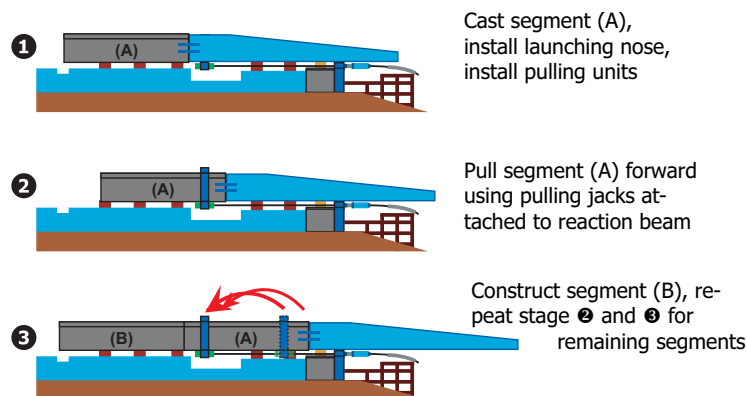

Figure 7: Typical Incremental Launch Bridge Construction Cycle (VSL Systems)
The concentric pre-stressing tendons were stressed after the deck concrete had a compressive strength of over 35 MPa. The relevant deck segment would then be launched out of the casting bay thus making the casting bay available for the construction of the next segment. Refer to Figure 7 for the details of the construction cycle of a typical launch bridge deck.
*Fig. 7: Initial work at the construction site: (a) the assembled first layer of formwork; and (b) steel reinforcement. A complete 3-D model of the reinforcement was developed, and the more complex bars were fabricated using robots. However, most bars were designed to be fabricated conventionally using standard machinery*
The prefabricated EPS pieces were marked with an identification number referring to their final position in the structure to simplify the on-site formwork assembly. To optimize logistics, the formwork parts were transported in a container and were positioned corresponding to the order of use on-site. Figure 7 displays the first layer of formwork assembled on-site as well as the steel reinforcement. The formwork assemblage was rather easy due to high precision given by digital fabrication. The position of the tie rods was planned in the design phase, so it was possible to predrill the holes needed in the formwork using robot technology. A special cone was used in the connection between formwork and tie rods in curved areas.